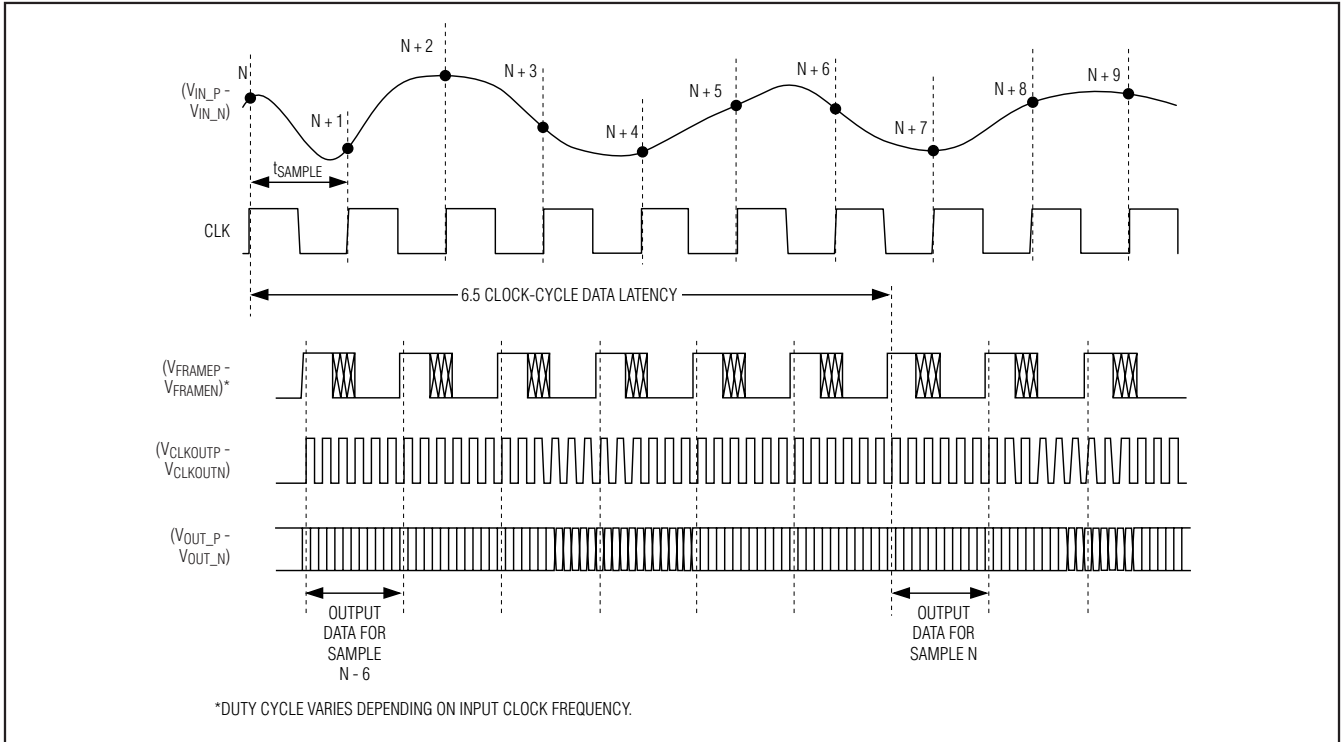
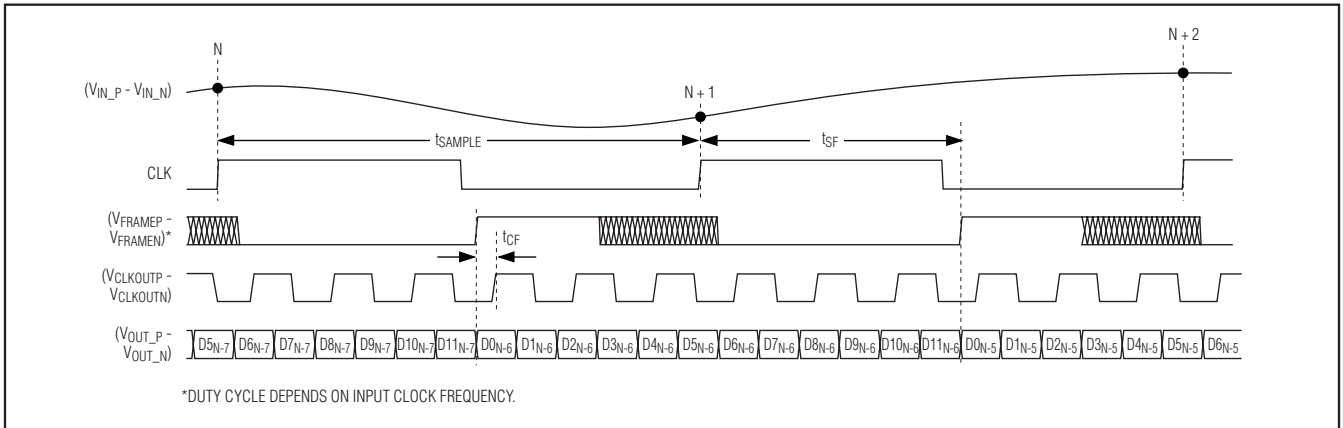
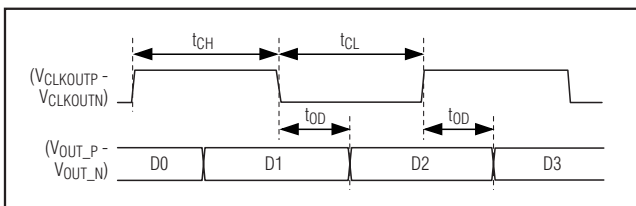

Figure 3. Global Timing Diagram
Figure 4. Detailed Two-Conversion Timing Diagram
Figure 5. Serialized-Output Detailed Timing Diagram
Figure 3 shows the relationship between the analog inputs, input clock, frame-alignment output, serial-clock output, and serial-data output. The differential analog input (IN_P and IN_N) is sampled on the rising edge of the CLK signal and the resulting data appears at the digital outputs 6.5 clock cycles later. Figure 4 provides a detailed, two-conversion timing diagram of the relationship between the inputs and the outputs.
The MAX1437B provides a differential clock output that consists of CLKOUTP and CLKOUTN. As shown in Figure 4, the serial output data is clocked out of the MAX1437B on both edges of the clock output. The frequency of the output clock is six times the frequency of CLK.
The MAX1437B provides a differential frame-alignment signal that consists of FRAMEP and FRAMEN. As shown in Figure 4, the rising edge of the frame-alignment signal corresponds to the first bit (DO) of the 12-bit serial data stream. The frequency of the frame-alignment signal is identical to the frequency of the input clock.
The MAX1437B provides its conversion results through individual differential outputs consisting of OUT_P and OUT_N. The results are valid 6.5 input clock cycles after the sample is taken. As shown in Figure 3, the output data is clocked out on both edges of the output clock, LSB (DO) first. Figure 5 provides the detailed serial-output timing diagram.